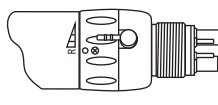

Fig. 4
(2) Reverse Rotation : Turn the FWD/REV Change Ring to "R" as shown in Fig.4.